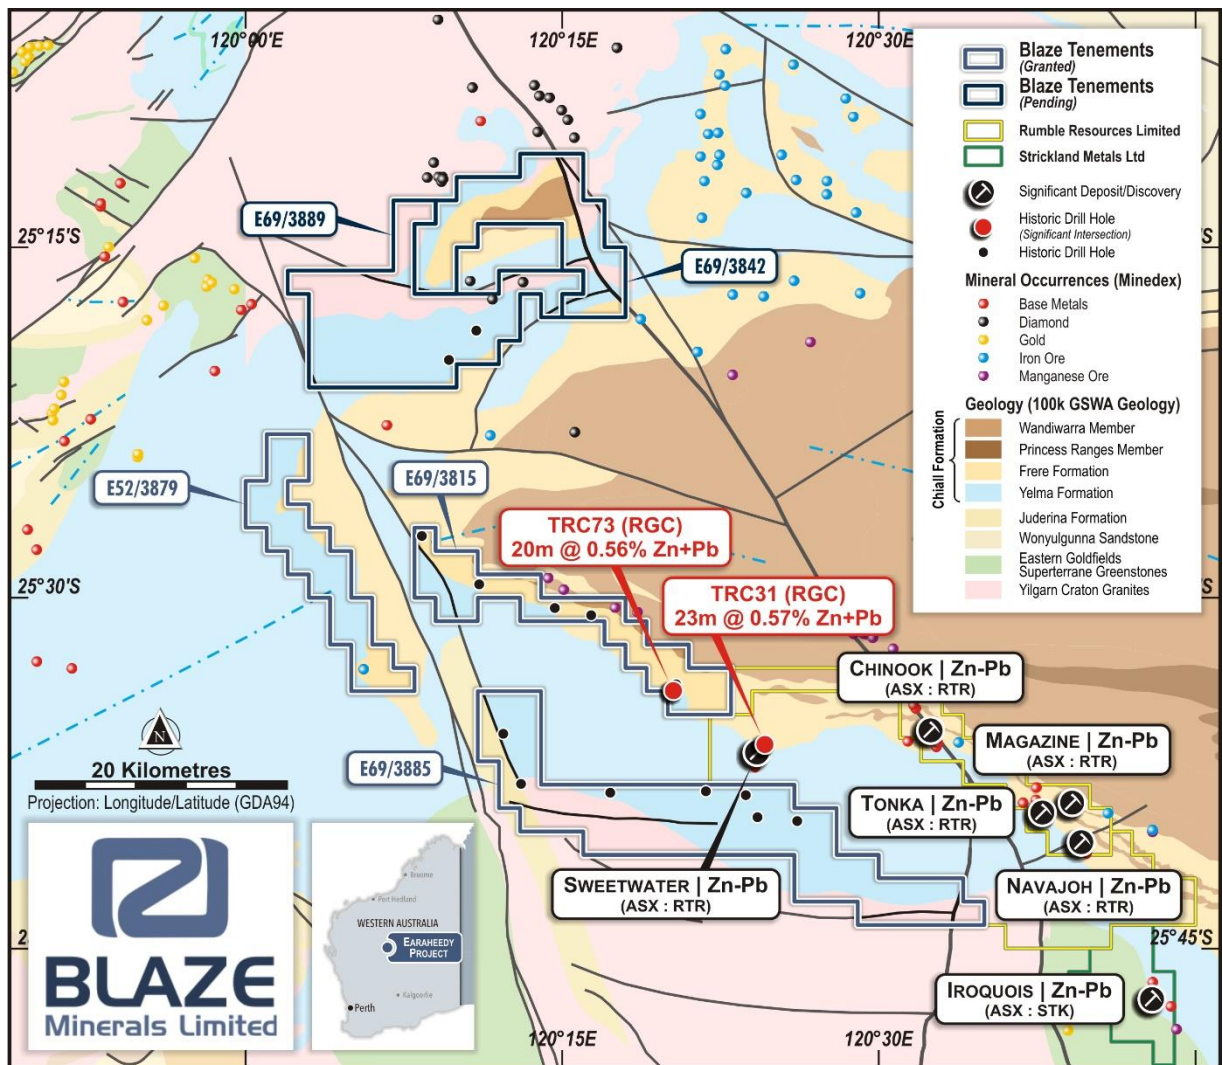

Figure 1: Location of Earaheedy Basin Tenure
- ❑ A number of these areas lie immediately to the west northwest of the strike extension of the Chinook Zinc-Lead discovery of Rumble Resources Limited (ASX: RTR) and the Iroquis Zinc-Lead discovery of Strickland Metals Limited (ASX: STK) (refer Figure 1.)